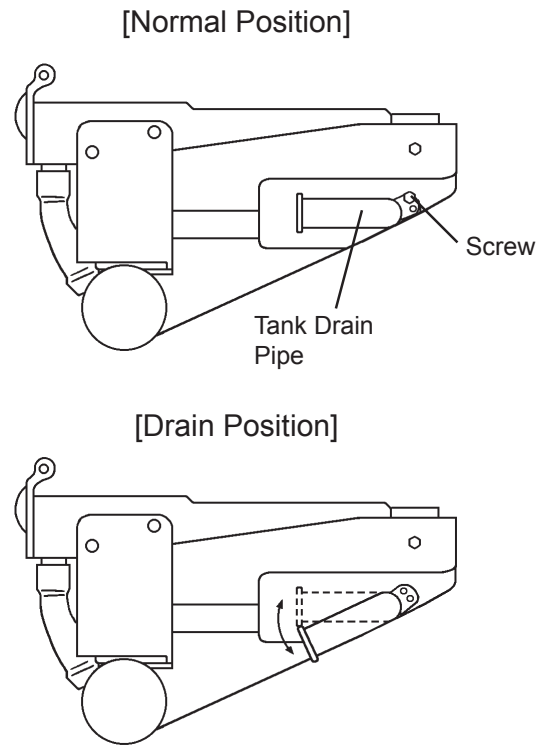

Fig. 5
- 5) Remove the screw, then move the water tank drain pipe to the drain position. See Fig. 5. Use the screw to secure the water tank drain pipe in the drain position.
- 20) Remove the screw, then move the water tank drain pipe to the normal position. See Fig. 5. Use the screw to secure the water tank drain pipe in the normal position.
- 3) Remove the screw, and move the tank drain pipe to the drain position. See Fig. 5.
- 8) Move the tank drain pipe to the normal position, and secure it with the screw. See Fig. 5.